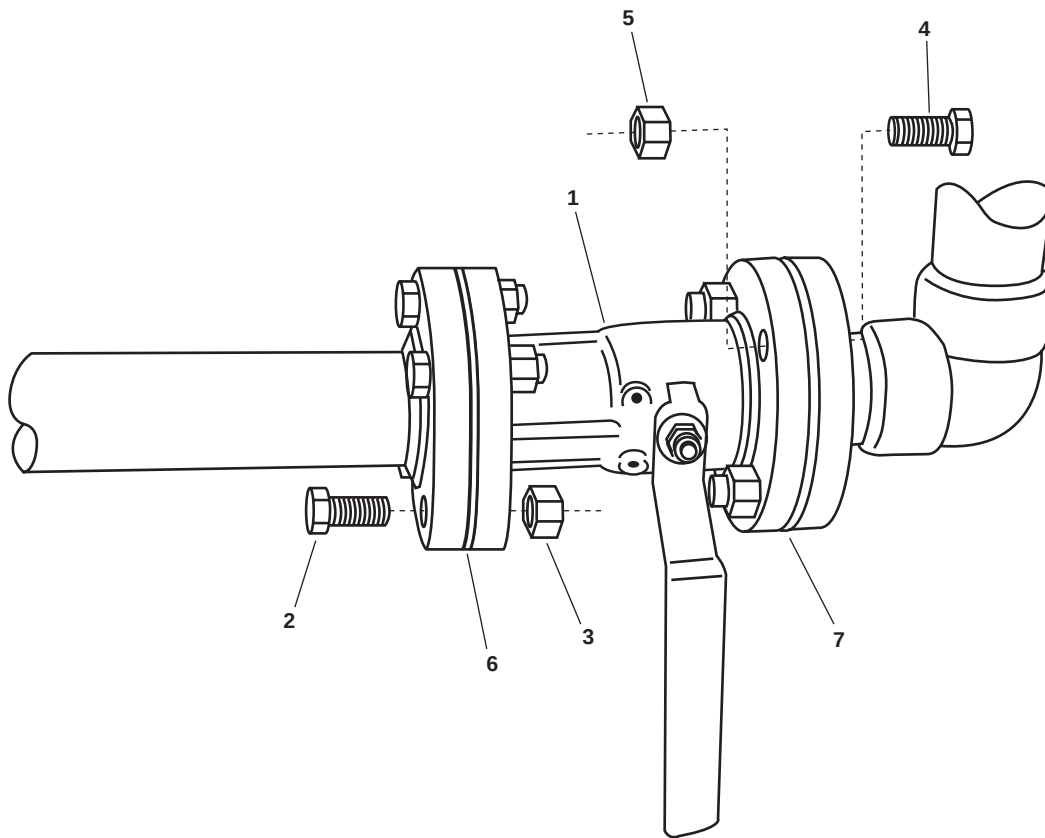

Figure 2. Typical Two-Way Ball Valve
1. Place a suitable drain pan under two-way ball valve (figure 2, item 1).
2. Slowly loosen the bolts (figure 2, item 2) on one end of two-way ball valve (figure 2, item 1) and break the seal between two-way ball valve and the vessel's piping.
3. After the fuel oil drains from two-way ball valve (figure 2, item 1), remove all the bolts (figure 2, item 2) and the nuts (figure 2, item 3).
4. Remove the bolts (figure 2, item 4) and the nuts (figure 2, item 5) from the opposite side of the two-way ball valve (figure 2, item 1).
5. Lift the two-way ball valve (figure 2, item 1) clear of vessel's piping.
6. Remove and discard the gaskets (figure 2, items 6 and 7) from the ends of two-way ball valve (figure 2, item 1) and the vessel's piping.
1. Clean the flanges of two-way ball valve (figure 2, item 1) and vessel's piping using dry cleaning solvent and a wire brush.
2. Install the two-way ball valve (figure 2, item 1) and new gaskets (figure 2, items 6 and 7) in the vessel's piping.
3. Install the bolts (figure 2, items 2 and 4) and nuts (figure 2, items 3 and 5) to secure the two-way ball valve (figure 2, item 1). Tighten the bolts.